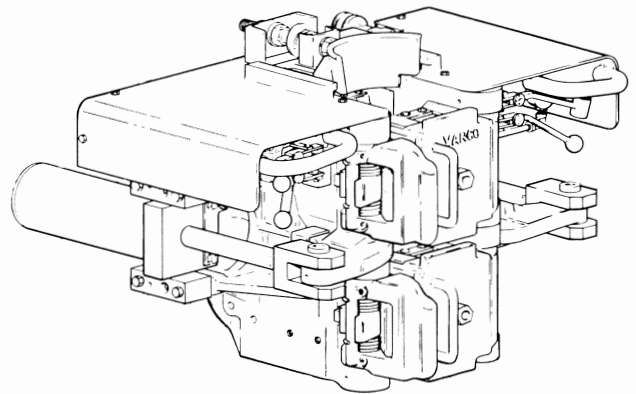

Figure 1-2. TW-60 Body
- 1-6. **TORQUE WRENCH BODY.** The torque wrench body consists of two segments, upper and lower (Figure 1-2). Each segment has two opposing jaws with die holders, one fixed on the gate and one movable on the clamping piston. The gate on each segment swings open on a hinge pin to allow the wrench to swing onto a tool joint. The jaws are equipped with spring loaded buttons to center the wrench around the pipe connection.